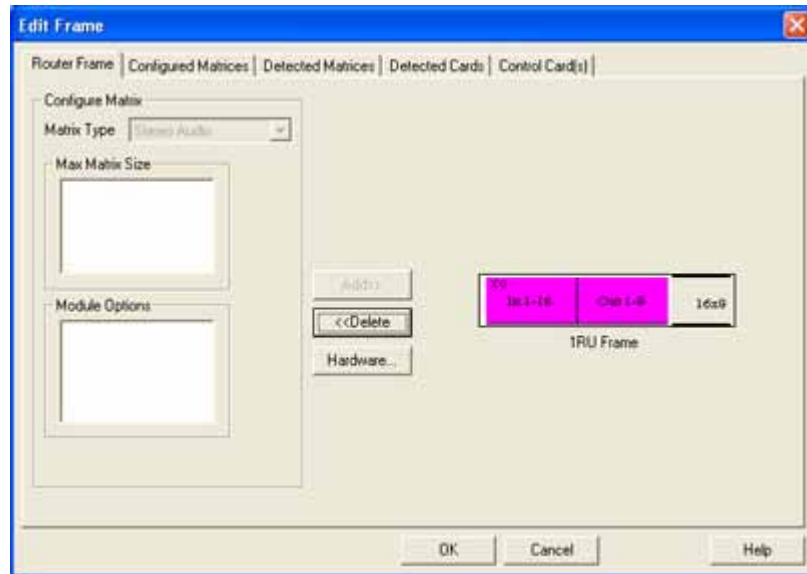

Figure 2-5 Router Frame Tab
- 2 Select the Router Frame tab. The Router Frame tab's matrix information should appear as shown in Figure 2-5.